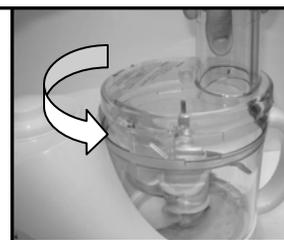

Fig. 9
- Place the lid on top of the food processor bowl. Once in place twist it to the left so that it is locked securely. (Fig. 9)